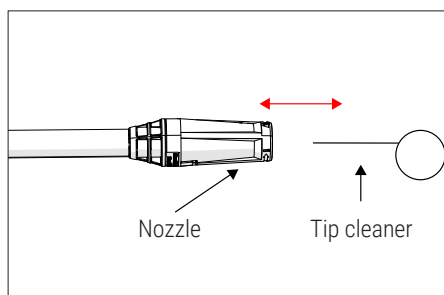

Figure 5 – Insert tip cleaner in nozzle hole and move back and forth until debris is dislodged
- Using included tip cleaner, or an unfolded paper clip, insert wire into the nozzle hole and move back and forth until debris is dislodged (See Figure 5).